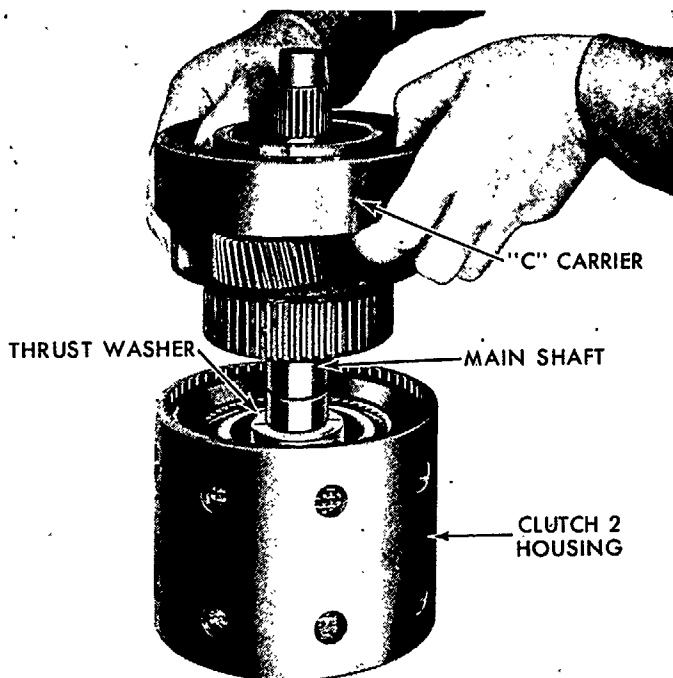

Figure 61
24. Insert the "C" sun gear-to-carrier thrust washer into the "C" carrier so it is positioned beneath the planetary pinions. Install the "C" carrier over the end of the mainshaft, as shown in Figure 61. Align the "C" carrier splines with the clutch assembly rotating the carrier back and forth so it drops down into the clutch assembly.